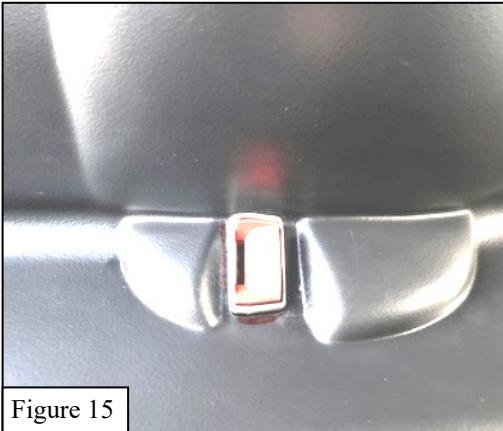

Figure 15
12. Locate seat buckles into open slots cut in seat cover. NOTE: use provided buckle puller locator to locate and pull drivers side seat buckle into finished position. Figures 15, 16 & 17.